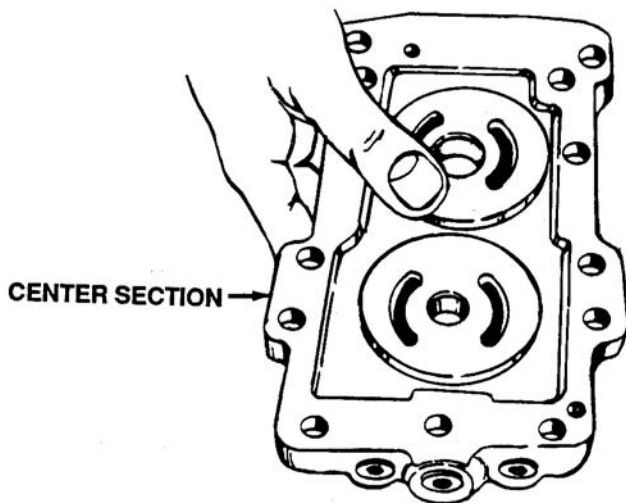

Figure 6-58. Inspection of Center Section
- a. Examine wear surface of center section for excessive scratching or heavy wear patterns. When surface of center section is worn down more than .01 mm, replace center section with new one. See Figure 6-58.